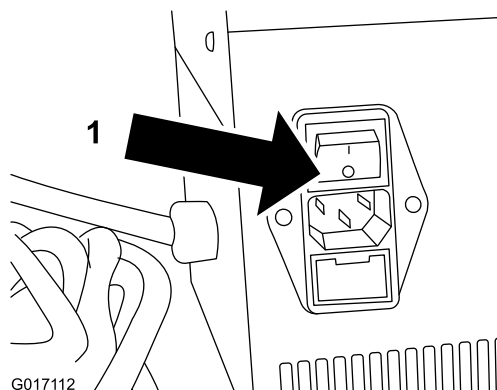

Figure 3
1. Make sure that the charger is turned off (Figure 3).
3. Turn the power to the eFlex off (Figure 3).